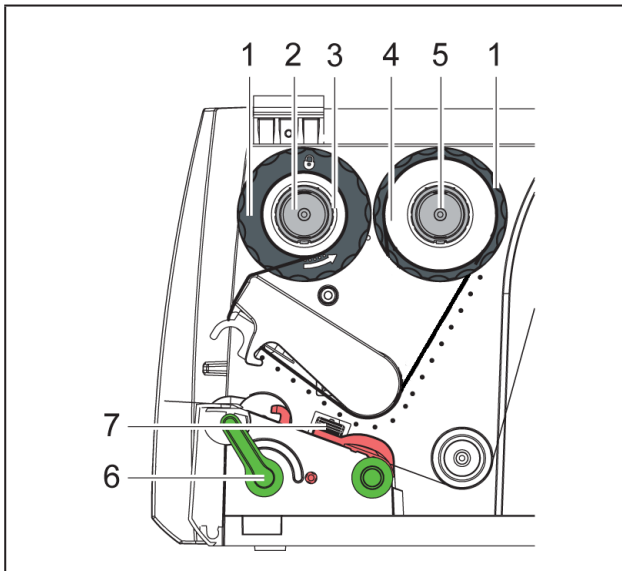

Fig. 10 Transfer Ribbon Feed Path
- 5 Adjust position of the guide on the take-up hub to the width of the ribbon core (3) and push ribbon core on the take-up hub.
- 6 Guide transfer ribbon through the printing unit as shown in Fig. 10.